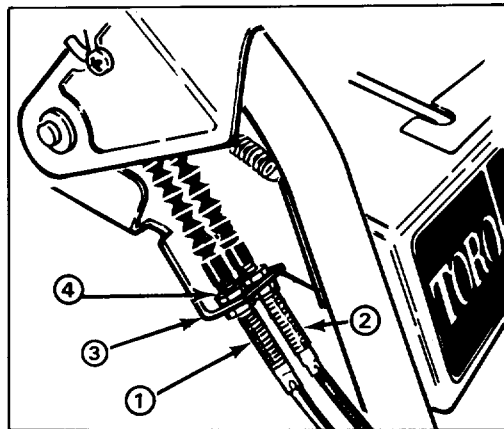

Figure 26
cable to mounting bracket (Fig. 26).
### ADJUSTING TRACTION DRIVE BELT (Fig. 26)
8. On control cable which corresponds to belt being replaced, loosen jam nuts securing cable to bracket (Fig. 26). Cable must be free to slide in bracket when changing belt(s).